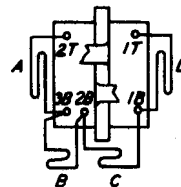

Fig. 108 — Terminal Arrangement as Viewed From the Rear (terminal side) — 40-Type Resistors
**4.15** The winding terminals are numbered from right to left facing the terminal side of the resistor as shown in Fig. 108. The terminal numbers are followed by the suffix T (top) or B (bottom) to indicate that the terminal is in the top or bottom row of terminals.